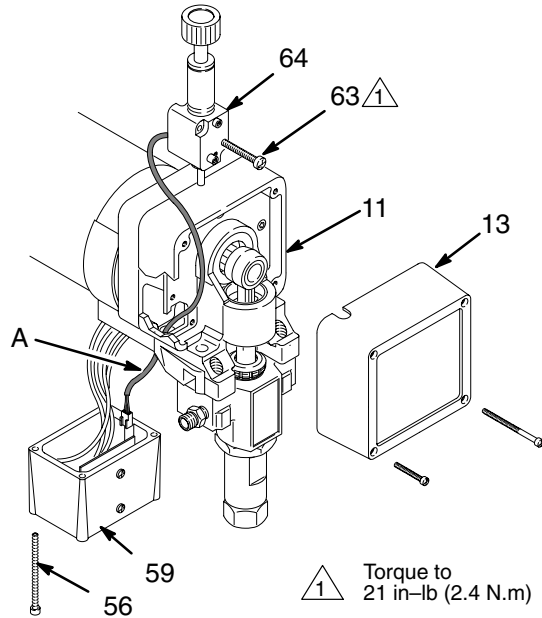

Fig. 25
**NOTE:** See Fig. 25 for this procedure.
**NOTE:** The pressure control (64) cannot be repaired or adjusted. If it has malfunctioned, replace it.
1. Remove the front cover (13). Remove the screws (56). Lower the junction box (59).
2. Disconnect the harness connector (A) from the motor start board (47).
3. Remove the screws (63). Pull forward on the pressure adjusting knob and tip the pressure control (64) forward and up to detach it from the drive housing (11).
4. Guide the harness (A) through the motor and drive housing and remove the pressure control.
6. Install the new pressure control. Tip the pressure control down and back into the drive housing (11). Do not pinch or damage the harness (A).
7. Loosely install the screws (63) and then torque them to 21 in-lb (2.4 N.m).
8. Install the front cover (13). Connect the harness (A) to the motor start board (47).